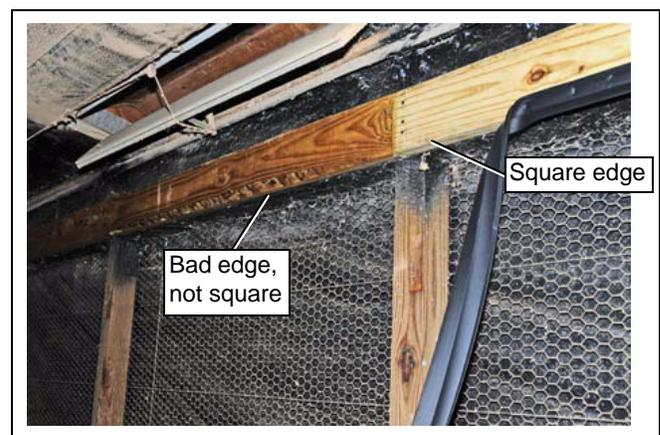

Figure 3C
- b. Inspect the 2" x 6" boards and place an edge with a square corner to the inside corner toward the evap opening. (The seal needs a square corner for attachment and proper seal.) (See Figure 3C.)